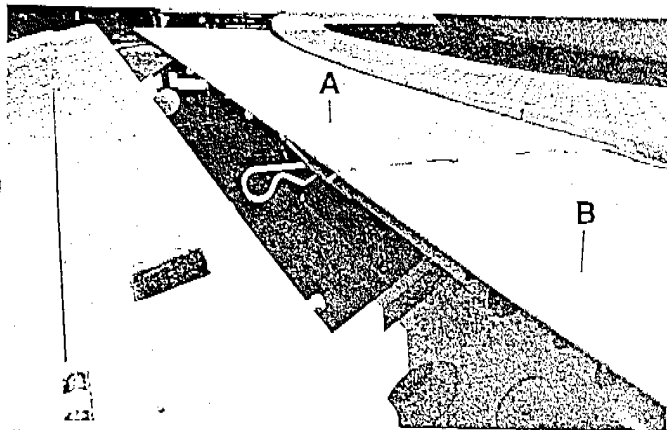

Fig. 23
- a. The bridge (a) spans the area between the end of the gooseneck ramp and the rotating platform. (Fig. 23)
d. Install the side extensions (b) to both sides of the bridge. The extension that is stored on the right side of the control console is installed on the right side of the ride. The extension that is stored on the left side is installed on the left side. Slide the bars that are under the side extensions into the sockets under the bridge. *Snap Key Place*. (Refer to Fig. 23)